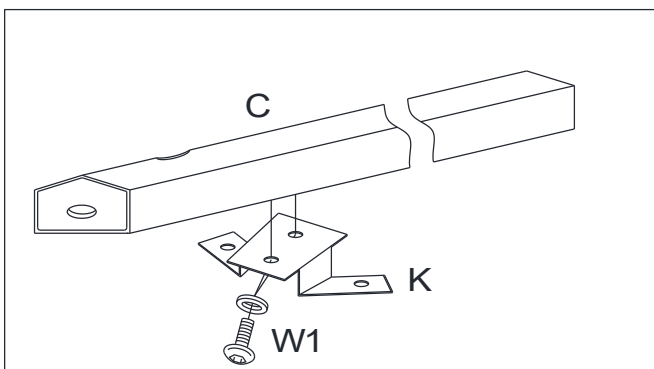

Fig.6
6. Attach Top Connector (K) to Long Top Bar (C) with Bolt (W1). See Fig.6.